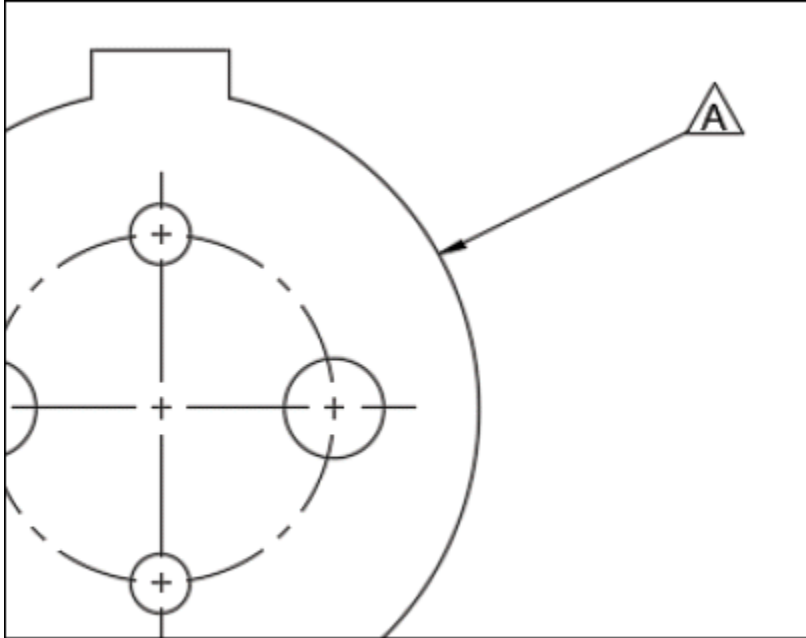

Figure-121. Revision marker placed
- Click at desired location to place the revision marker; refer to Figure-121.